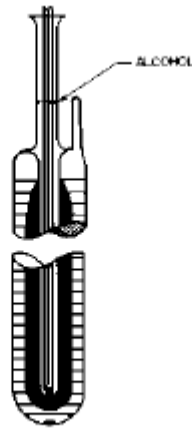

Figure 10. Thermometer in well with alcohol.
(5) INSERTING THERMOMETERS (See figure 10). Any type of thermometer may be used with the Equiphase Cell provided it will fit into the thermometer well. Before inserting the thermometer, replace the cover over the top part of the cell. Thermometers should be chilled before insertion.